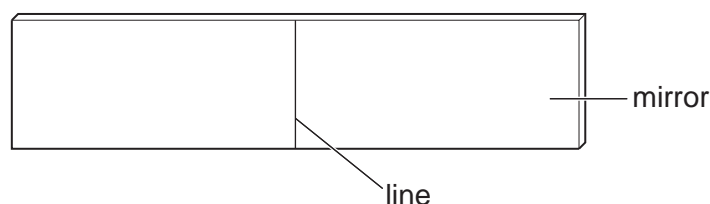

Fig. 4.1
2. The mirror is to have a thin straight line drawn on the front surface at the centre as shown in Fig. 4.1. The line can be drawn with a fine felt-tipped pen.